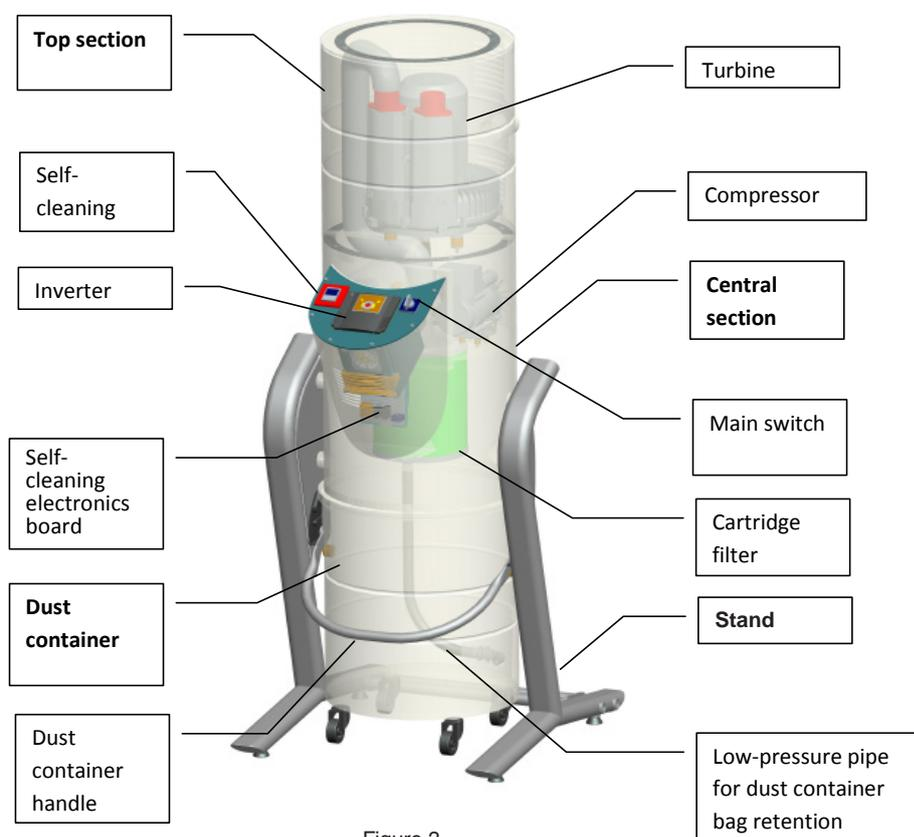

Figure 3.
Figure 3 gives a transparent view of the vacuum unit, allowing the main components to be seen.
- move the main switch on the control panel to position 1 (Figure 3);